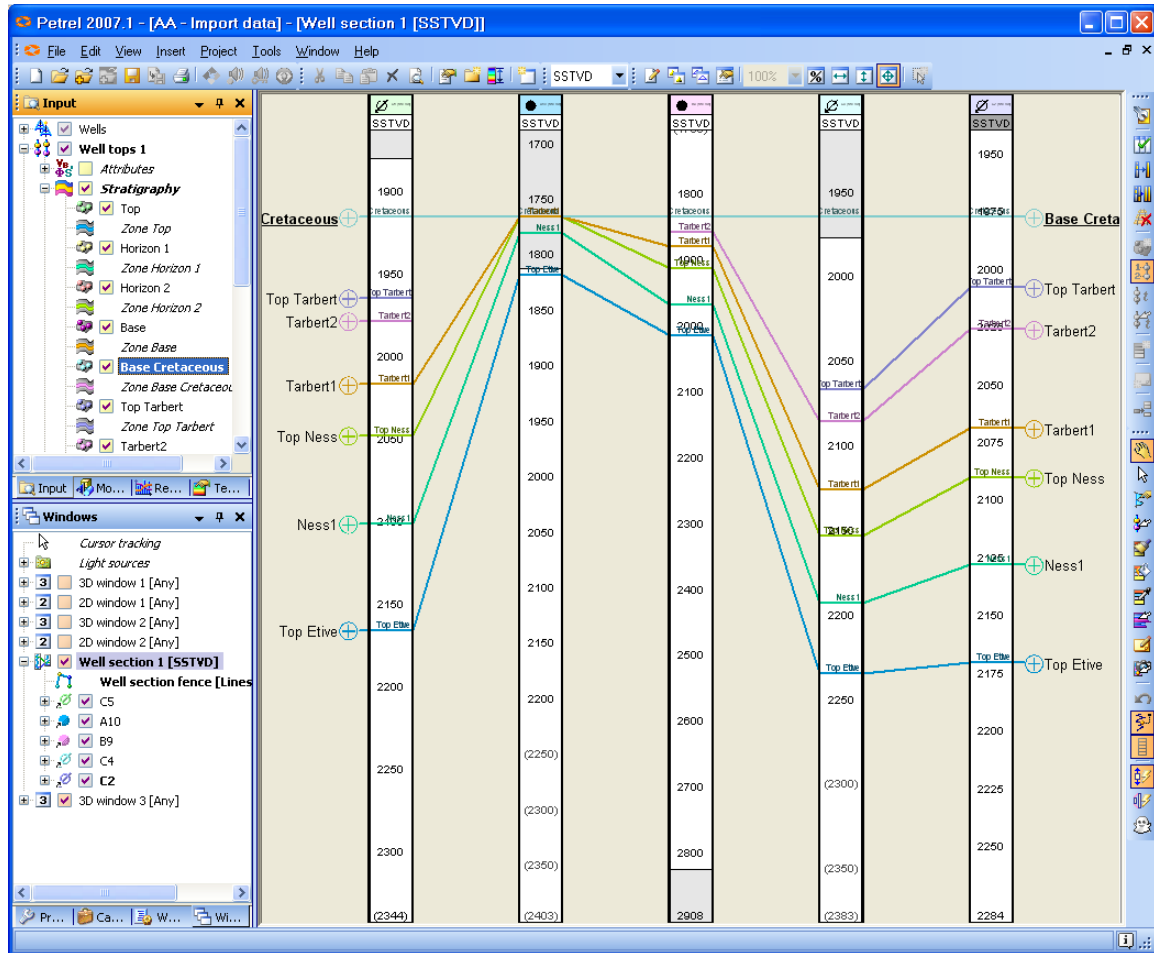

Fig. 10.15: All logs flattened to the **Base Cretaceous** horizon
7. Click the **Apply** button; note that all logs will be flattened to the **Base Cretaceous** horizon, as shown in Fig. 10.15.